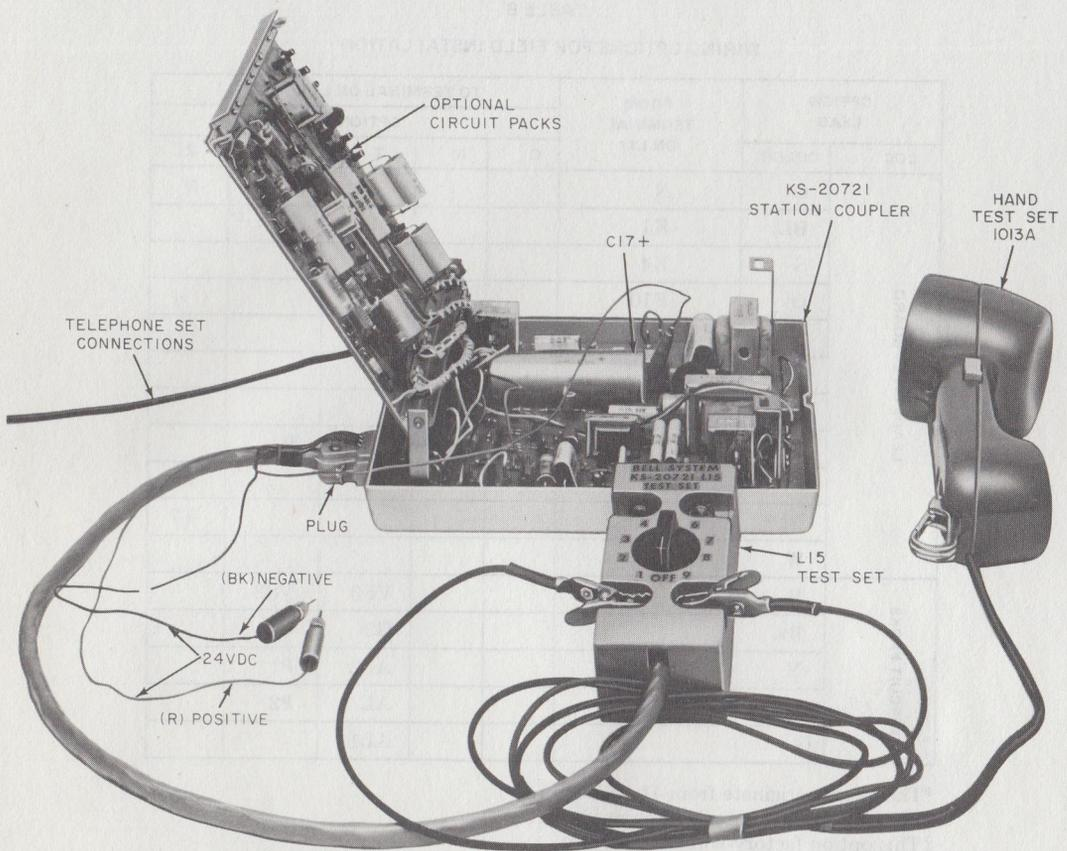

Fig. 6—KS-20721 Station Coupler With KS-20721, List 15 Test Set and IO13A Hand Test Set
- Set, Test, KS-20721, L15 (Fig. 6).
2.06 The KS-20721, List 15 test set plugs into the connector on the station coupler and is used with a 1013A hand test set (or equivalent) to test the operation of the coupler independent of the CPE (Fig. 6).
4.06 The List 15 test set (Fig. 6 and 8) used with the 1013A hand test set (or equivalent) and a connecting cable terminated in a plug for connection to the station coupler permits checkout of the coupler independent of the CPE.
3	Connect a 1013A (or equivalent) hand test set to terminals provided on test set (Fig. 6).